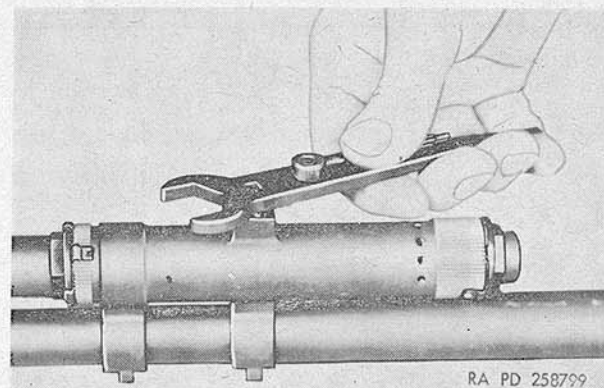

Figure 11. Removing gas cylinder plug with wrench 7269345.
f. Using combination wrench 7269345 (fig. 4), remove gas cylinder plug from gas cylinder (fig. 11).